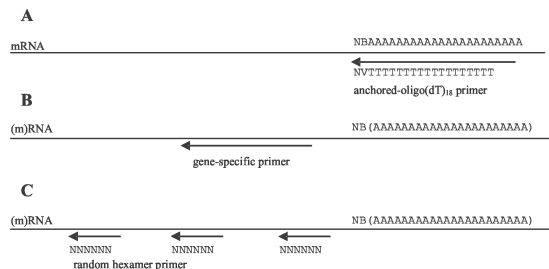

Fig. 5:
The kit provides all reagents required for performing first strand cDNA synthesis reactions from RNA. For priming, three different primer systems may be used as shown in Figure 5. Two cDNA synthesis primers are already provided with the kit: random hexamer primers and an anchored-oligo(dT)₁₈ primer. The latter is designed to bind at the very beginning of the poly(A) tail to generate full-length cDNA and to prevent priming from internal sites of the poly(A) tail. Although 5'-ends of long mRNAs can be underrepresented, this priming method is preferred for most applications. The use of random hexamer primers provides priming throughout the length of RNA for uniform representation of all RNA sequences and, in addition, allows reverse transcription of RNA molecules that do not have a poly(A) tail.